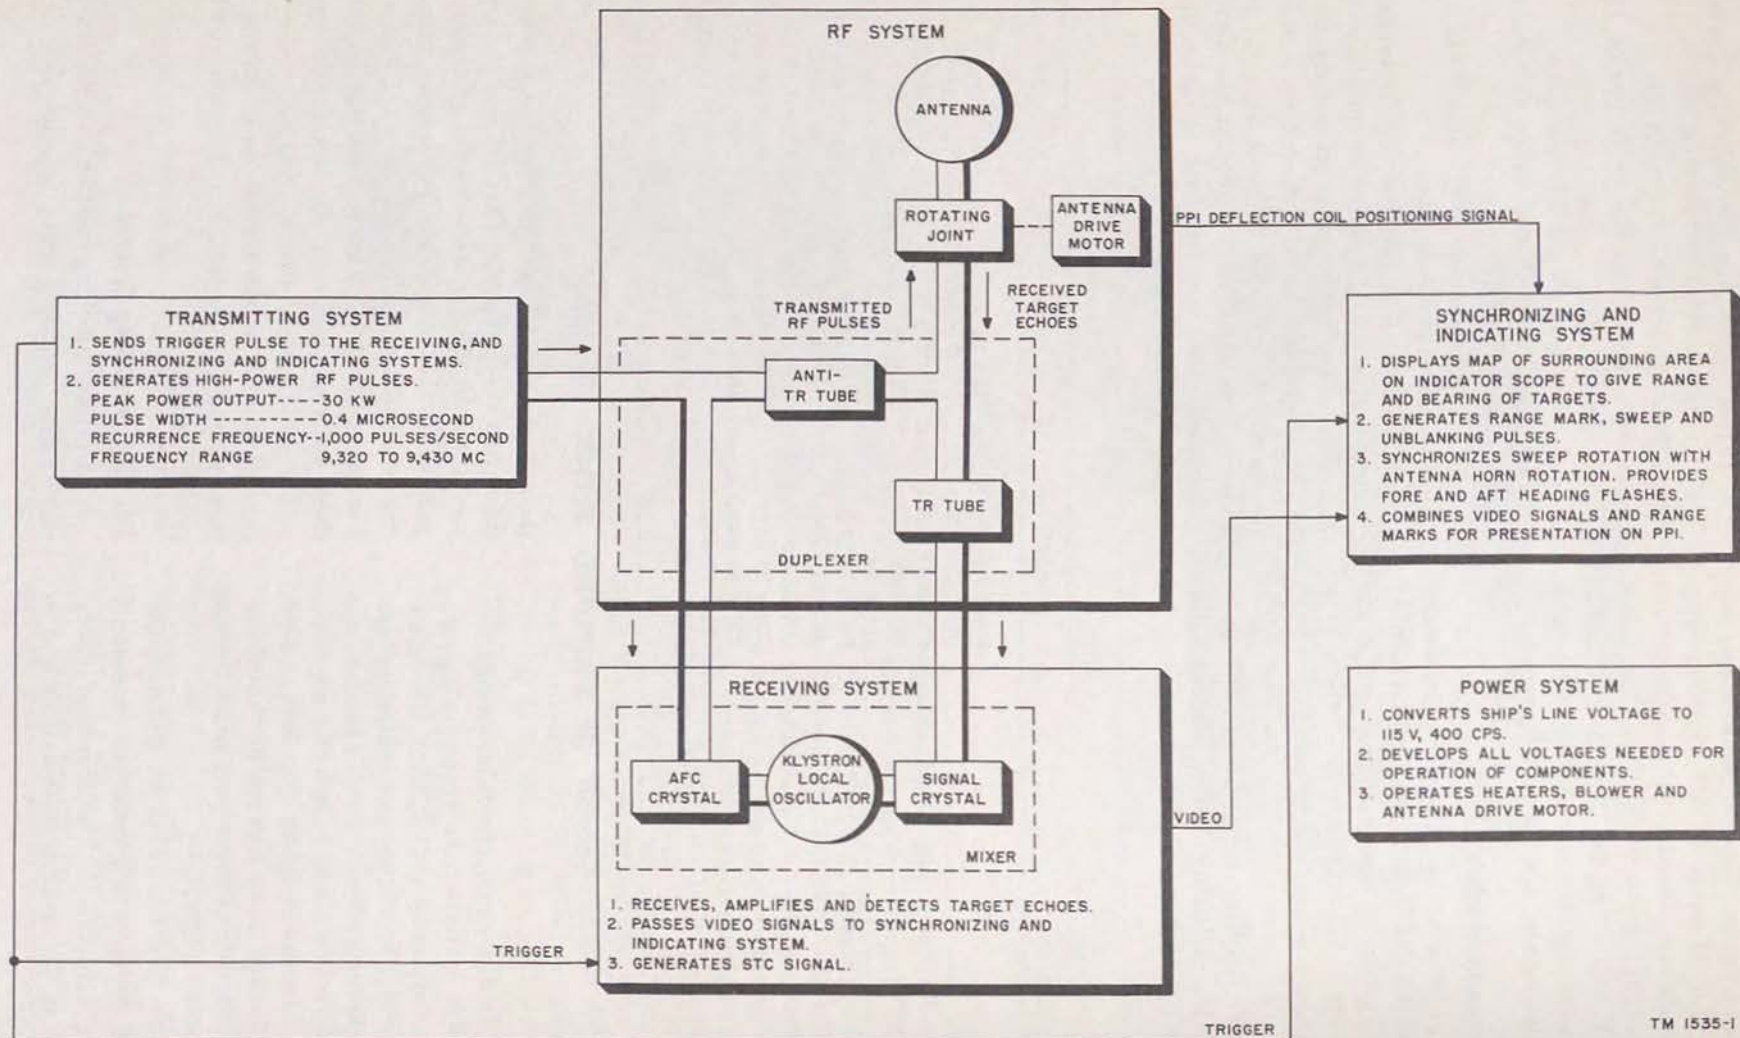

Figure 10. Simplified block diagram.
*a.* To simplify discussion, the radar set has been divided into five systems: the transmitting system, the radio frequency (rf) system, the receiving system, the synchronizing and indicating system, and the power system. In this section, the functions of each system will be given in a general way (fig. 10). In the chapters that follow, each system will be broken down into its individual circuits, and the function of every part in each stage will be explained in detail.